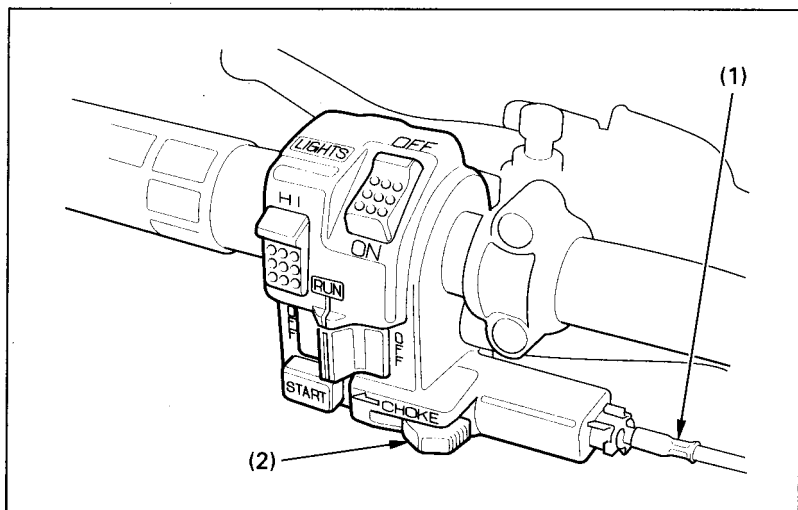

Fig. 4-8
Check the condition of the choke cable (Fig. 4-8) and the operation of the choke lever (2). If the cable is damaged or kinked, have it replaced by your Honda dealer.